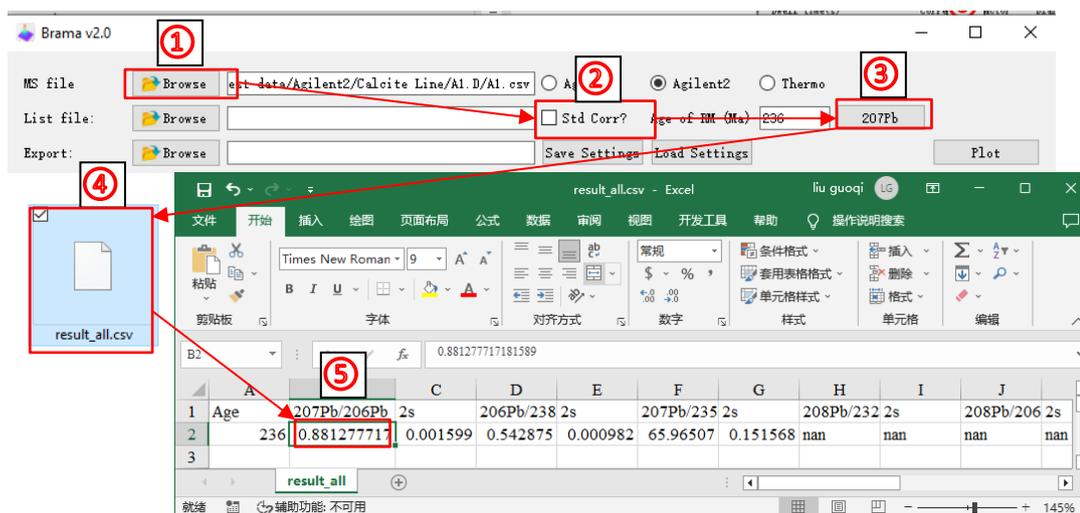

Fig. 1-16 Calculation steps of standard bias fractionation factor for $^{207}\text{Pb}/^{206}\text{Pb}$
$^{207}\text{Pb}/^{206}\text{Pb}$ fractionation factor: As Fig.1-16 shows, ①Import the “A1.csv” (NIST 614) file according to step 1.3.2. ②Uncheck the **Std Corr?** Checkbox and then click the ③ **^{207}Pb** button. ④Open the “result_all.csv” file in the current working directory of Brama, $^{207}\text{Pb}/^{206}\text{Pb}$ bias factors equals ⑤measured ratio (0.8813) divided by true ratio ($^{207}\text{Pb}/^{206}\text{Pb}$ NIST 614 = 0.8710).